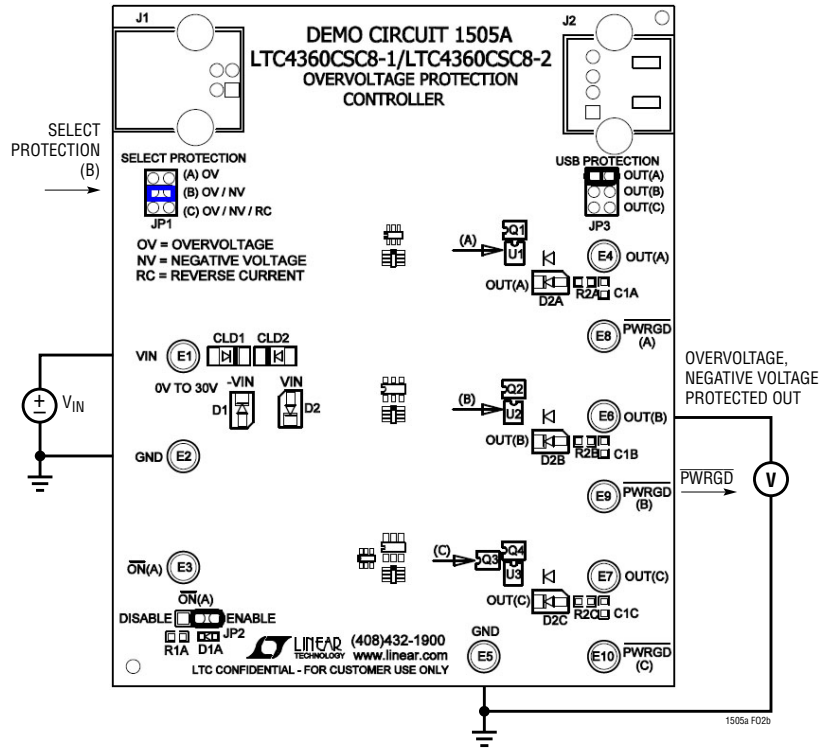

Figure 2b. DC1505A Protection (B) Setup for Overvoltage, and Negative Voltage
- b. For overvoltage and negative voltage protection select (B) OV/NV and connect to OUT(B). Figure 2b.